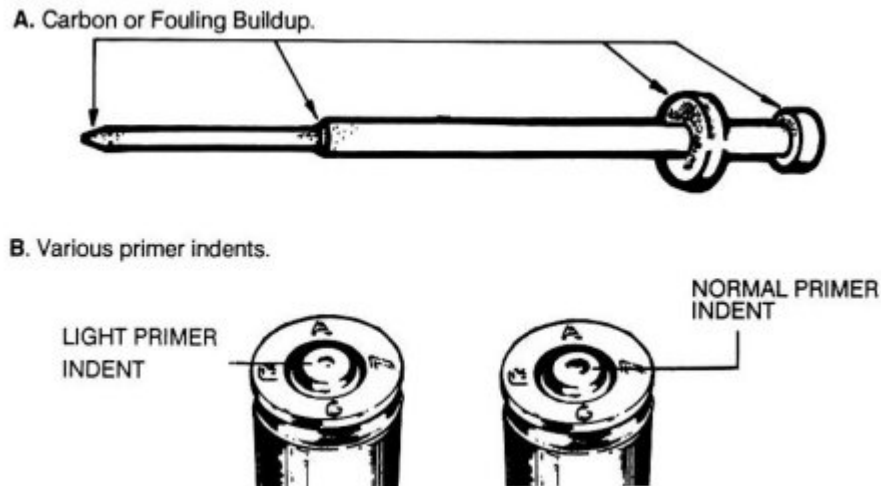

Figure 3-2. Failure to fire.
(1) **Probable Causes.** Excessive carbon buildup on the firing pin (Figure 3-2, A) is often the cause, because the full forward travel of the firing pin is restricted. A defective or worn firing pin can give the same results. Inspection of the ammunition could reveal a shallow indentation or no mark on the primer, indicating a firing
pin malfunction (Figure 3-2, B). Cartridges that show a normal indentation on the primer, but did not fire indicate faulty ammunition.